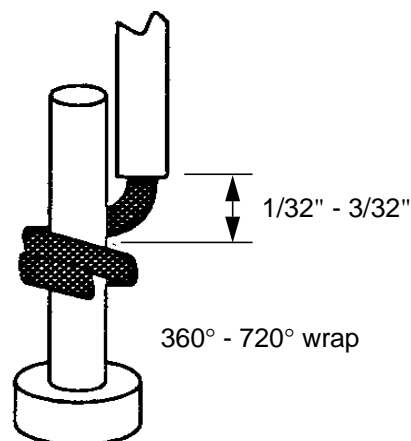

Figure 4 - Mechanical Hook-Up of Pin Terminals
- 5.9.1 When soldering small gauge wire to pin terminals, wrap the wire lead once or twice (360° - 720°) around the pin to ensure a mechanically sound connection (see Figure 4).